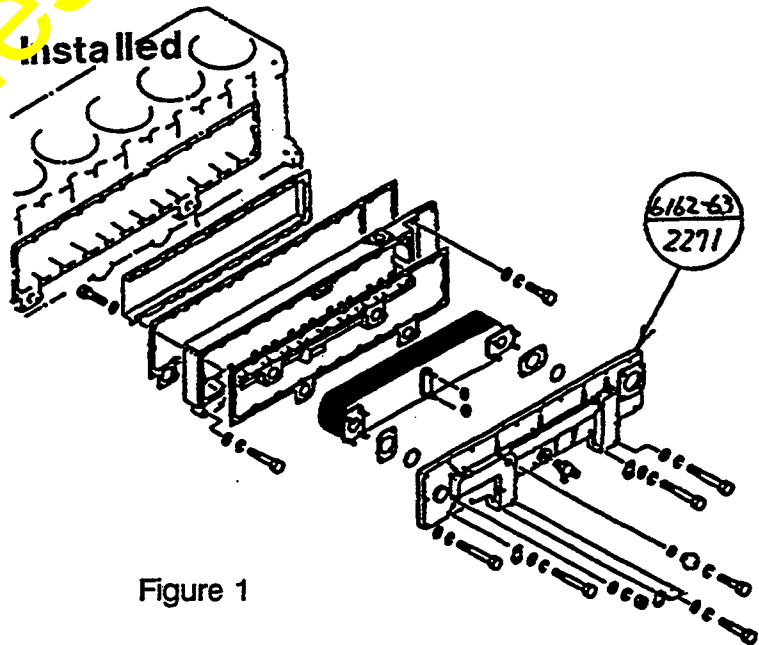

Figure 1
- 3.2 Install the oil cooler cover with hole for mounting block heater as described on Fig. 1 (See **NOTE 1**).